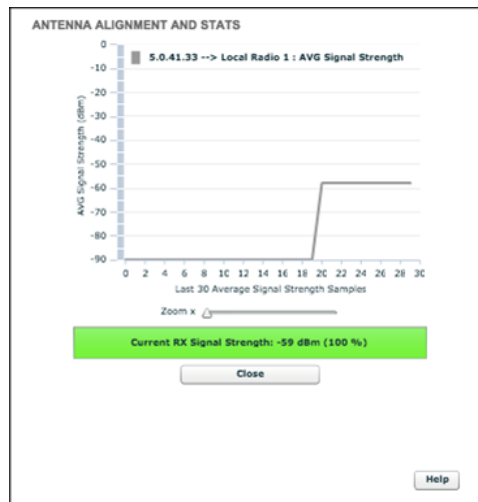

Figure 25. Antenna alignment and stats tool
- The **ANTENNA ALIGNMENT AND STATS** tool will be shown (Figure 25 (page 65)).